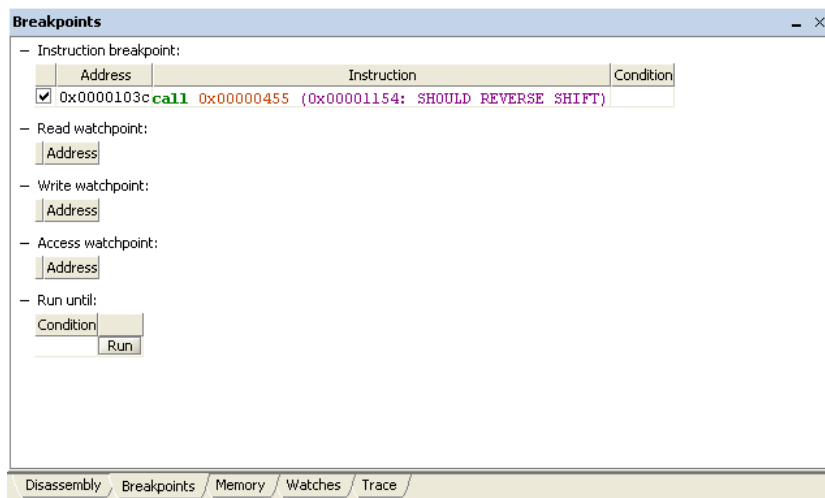

Figure 24. Breakpoints window.
1. Switch to the **Breakpoints** window, which is shown in Figure 24.